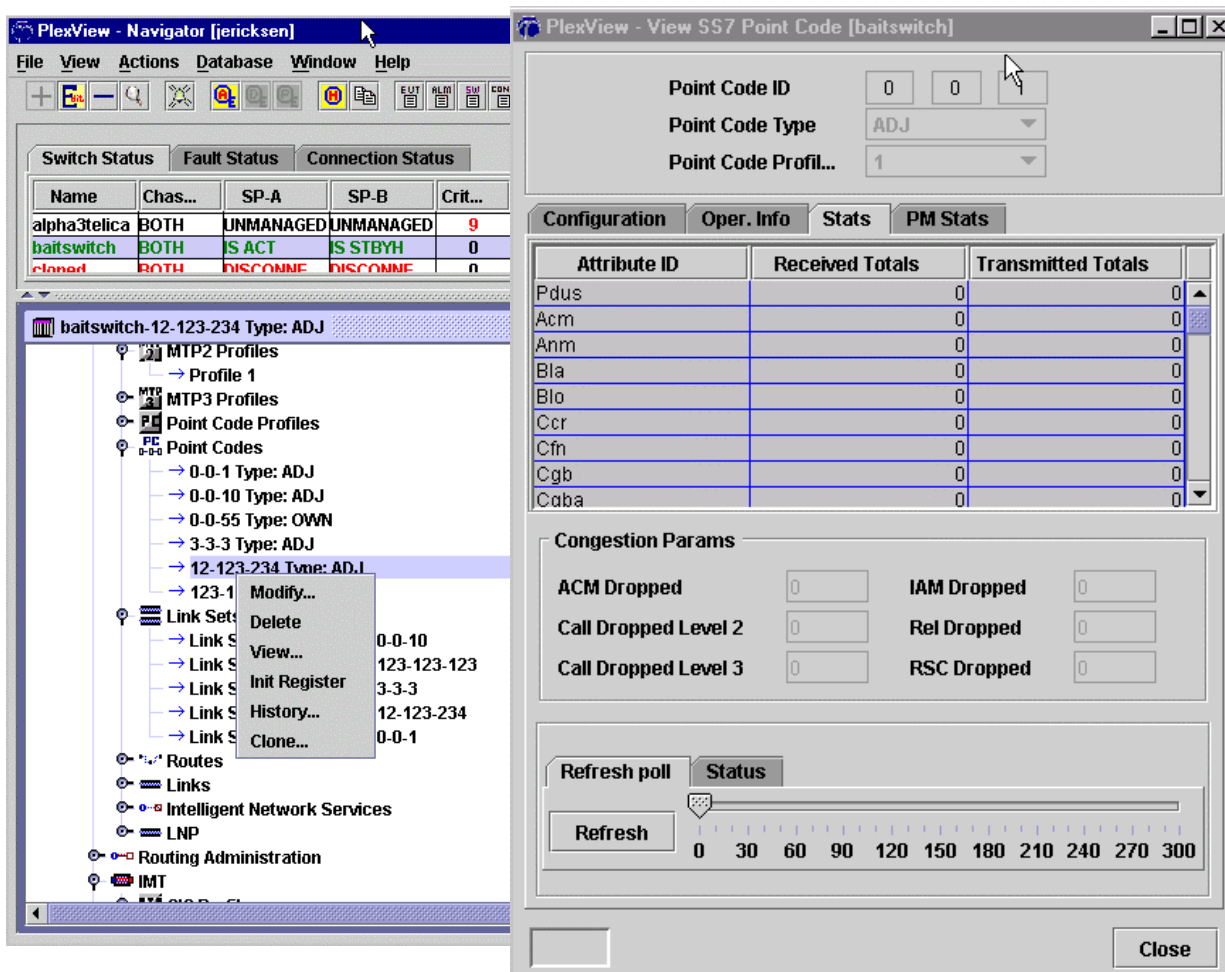

Figure 1. SS7 ISUP Messages Stats
5. Retrieve statistics for the total number of protocol messages and the various ISUP messages. Double-click the switch name in the switch status panel to select it for the main panel Double-click *SS7* and then *Point Codes*. Right-click an interface and select *View, Stats* and then click *Refresh* near the bottom of the panel for latest information. Refer to Figure 1.